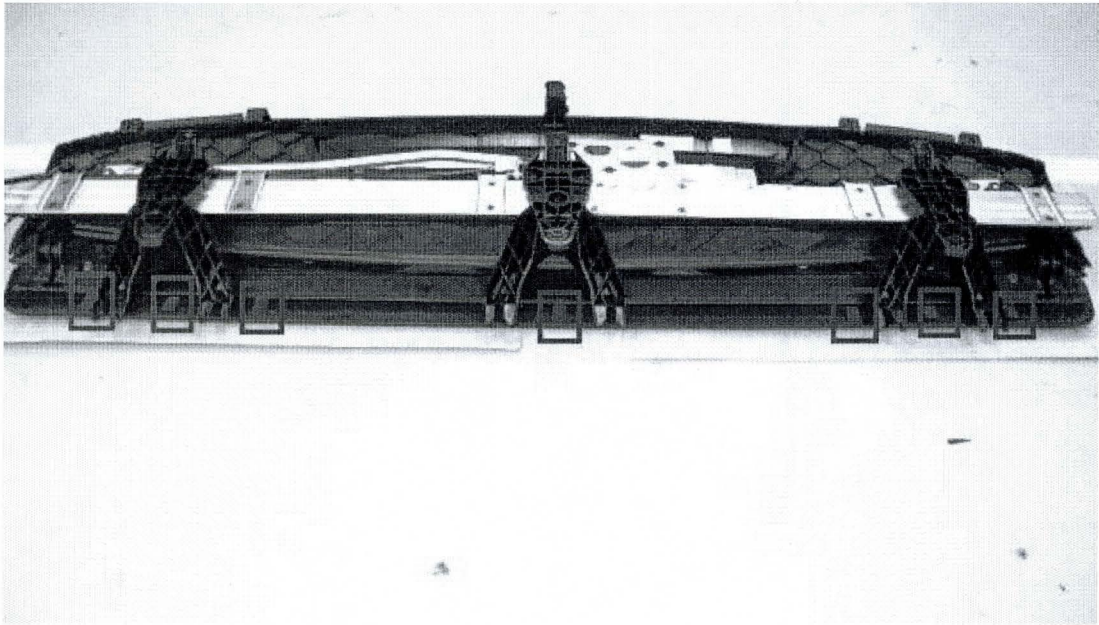

Figure 2
1. Fit seven bump pads to the underside of the rear screen sunblind door in the positions shown in Figure 2, **NOTE:** Should the blind door already have the seven pads fitted go to procedure 2
For photographic purposes only Figure 2 was taken with the blind removed from the vehicle. **DO NOT REMOVE** the blind to carry out this TPI